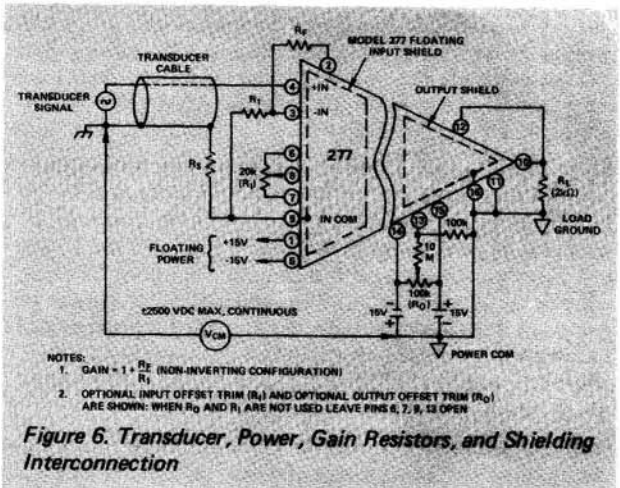

Figure 6. Transducer, Power, Gain Resistors, and Shielding Interconnection
Model 277 CMR performance is best preserved by using shielded signal cable with the shield connected as close as possible to signal low and IN COM to reduce pickup (see Figure 6).
- (1) Refer to Figure 6 for terminal and component designations.
- (2) Connect IN COM to OUT COM and set input signal to zero.
- (3) Place floating DVM across IN FDBK and OUTPUT terminals.
- (4) Null DVM reading using output offset trim potentiometer R_O .
- (5) Disconnect IN COM from OUT COM.
- (6) Place DVM across IN FDBK and IN COM terminals.
- (7) Adjust input offset trim potentiometer, R_I , until DVM reads zero volts.